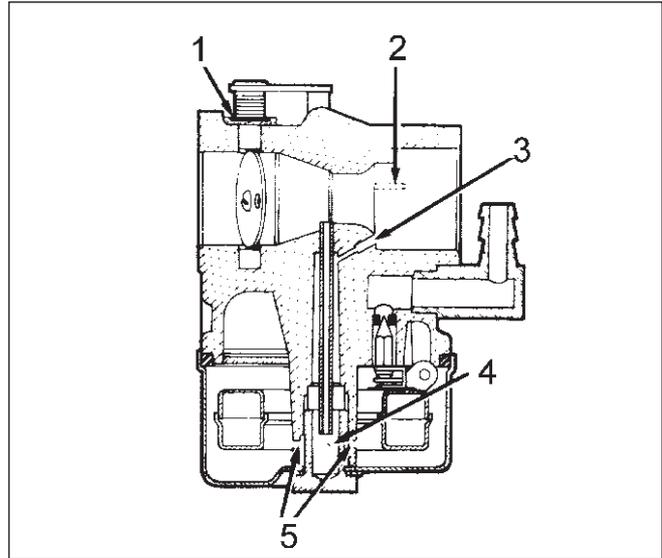

Fig. 17
**Index Fig. 17 - Before start**